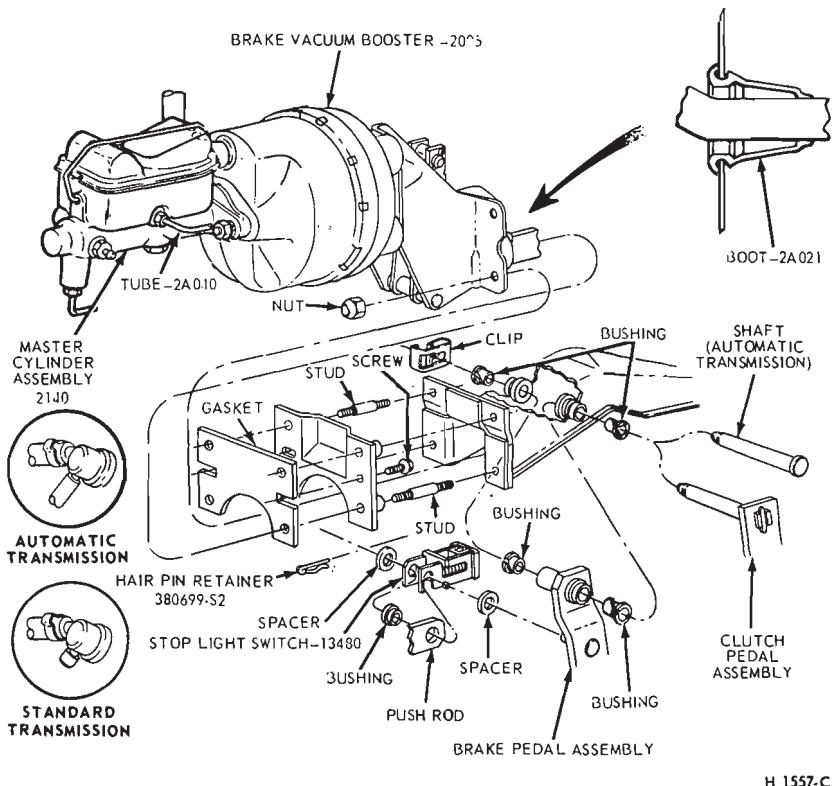

FIG. 11—Master Cylinder Installation—Power Brake—Fairlane, Montego
1. On Fairlane, Montego and Falcon models, install the push rod link boot in the hole in the dash panel as shown in Fig. 11. Install the four spacers on the mounting studs.
5. Slide the master cylinder or booster push rod and the nylon washers and bushing off from the brake pedal pin (Fig. 11).
6. Remove the self-locking pin and washer from the clutch and brake pedal shaft, then remove the clutch pedal and shaft assembly, the brake pedal assembly, and the bushings from the pedal support bracket (Fig. 11).
5. Install the inner nylon washer, the master cylinder or booster push rod, and the bushing on the brake pedal pin. Position the switch so that it straddles the push rod with the switch slot on the pedal pin and the switch outer hole just clearing the pin. Slide the switch completely onto the pin, and install the outer nylon washer as shown in Fig. 11. Secure these parts to the pin with the self-locking pin.